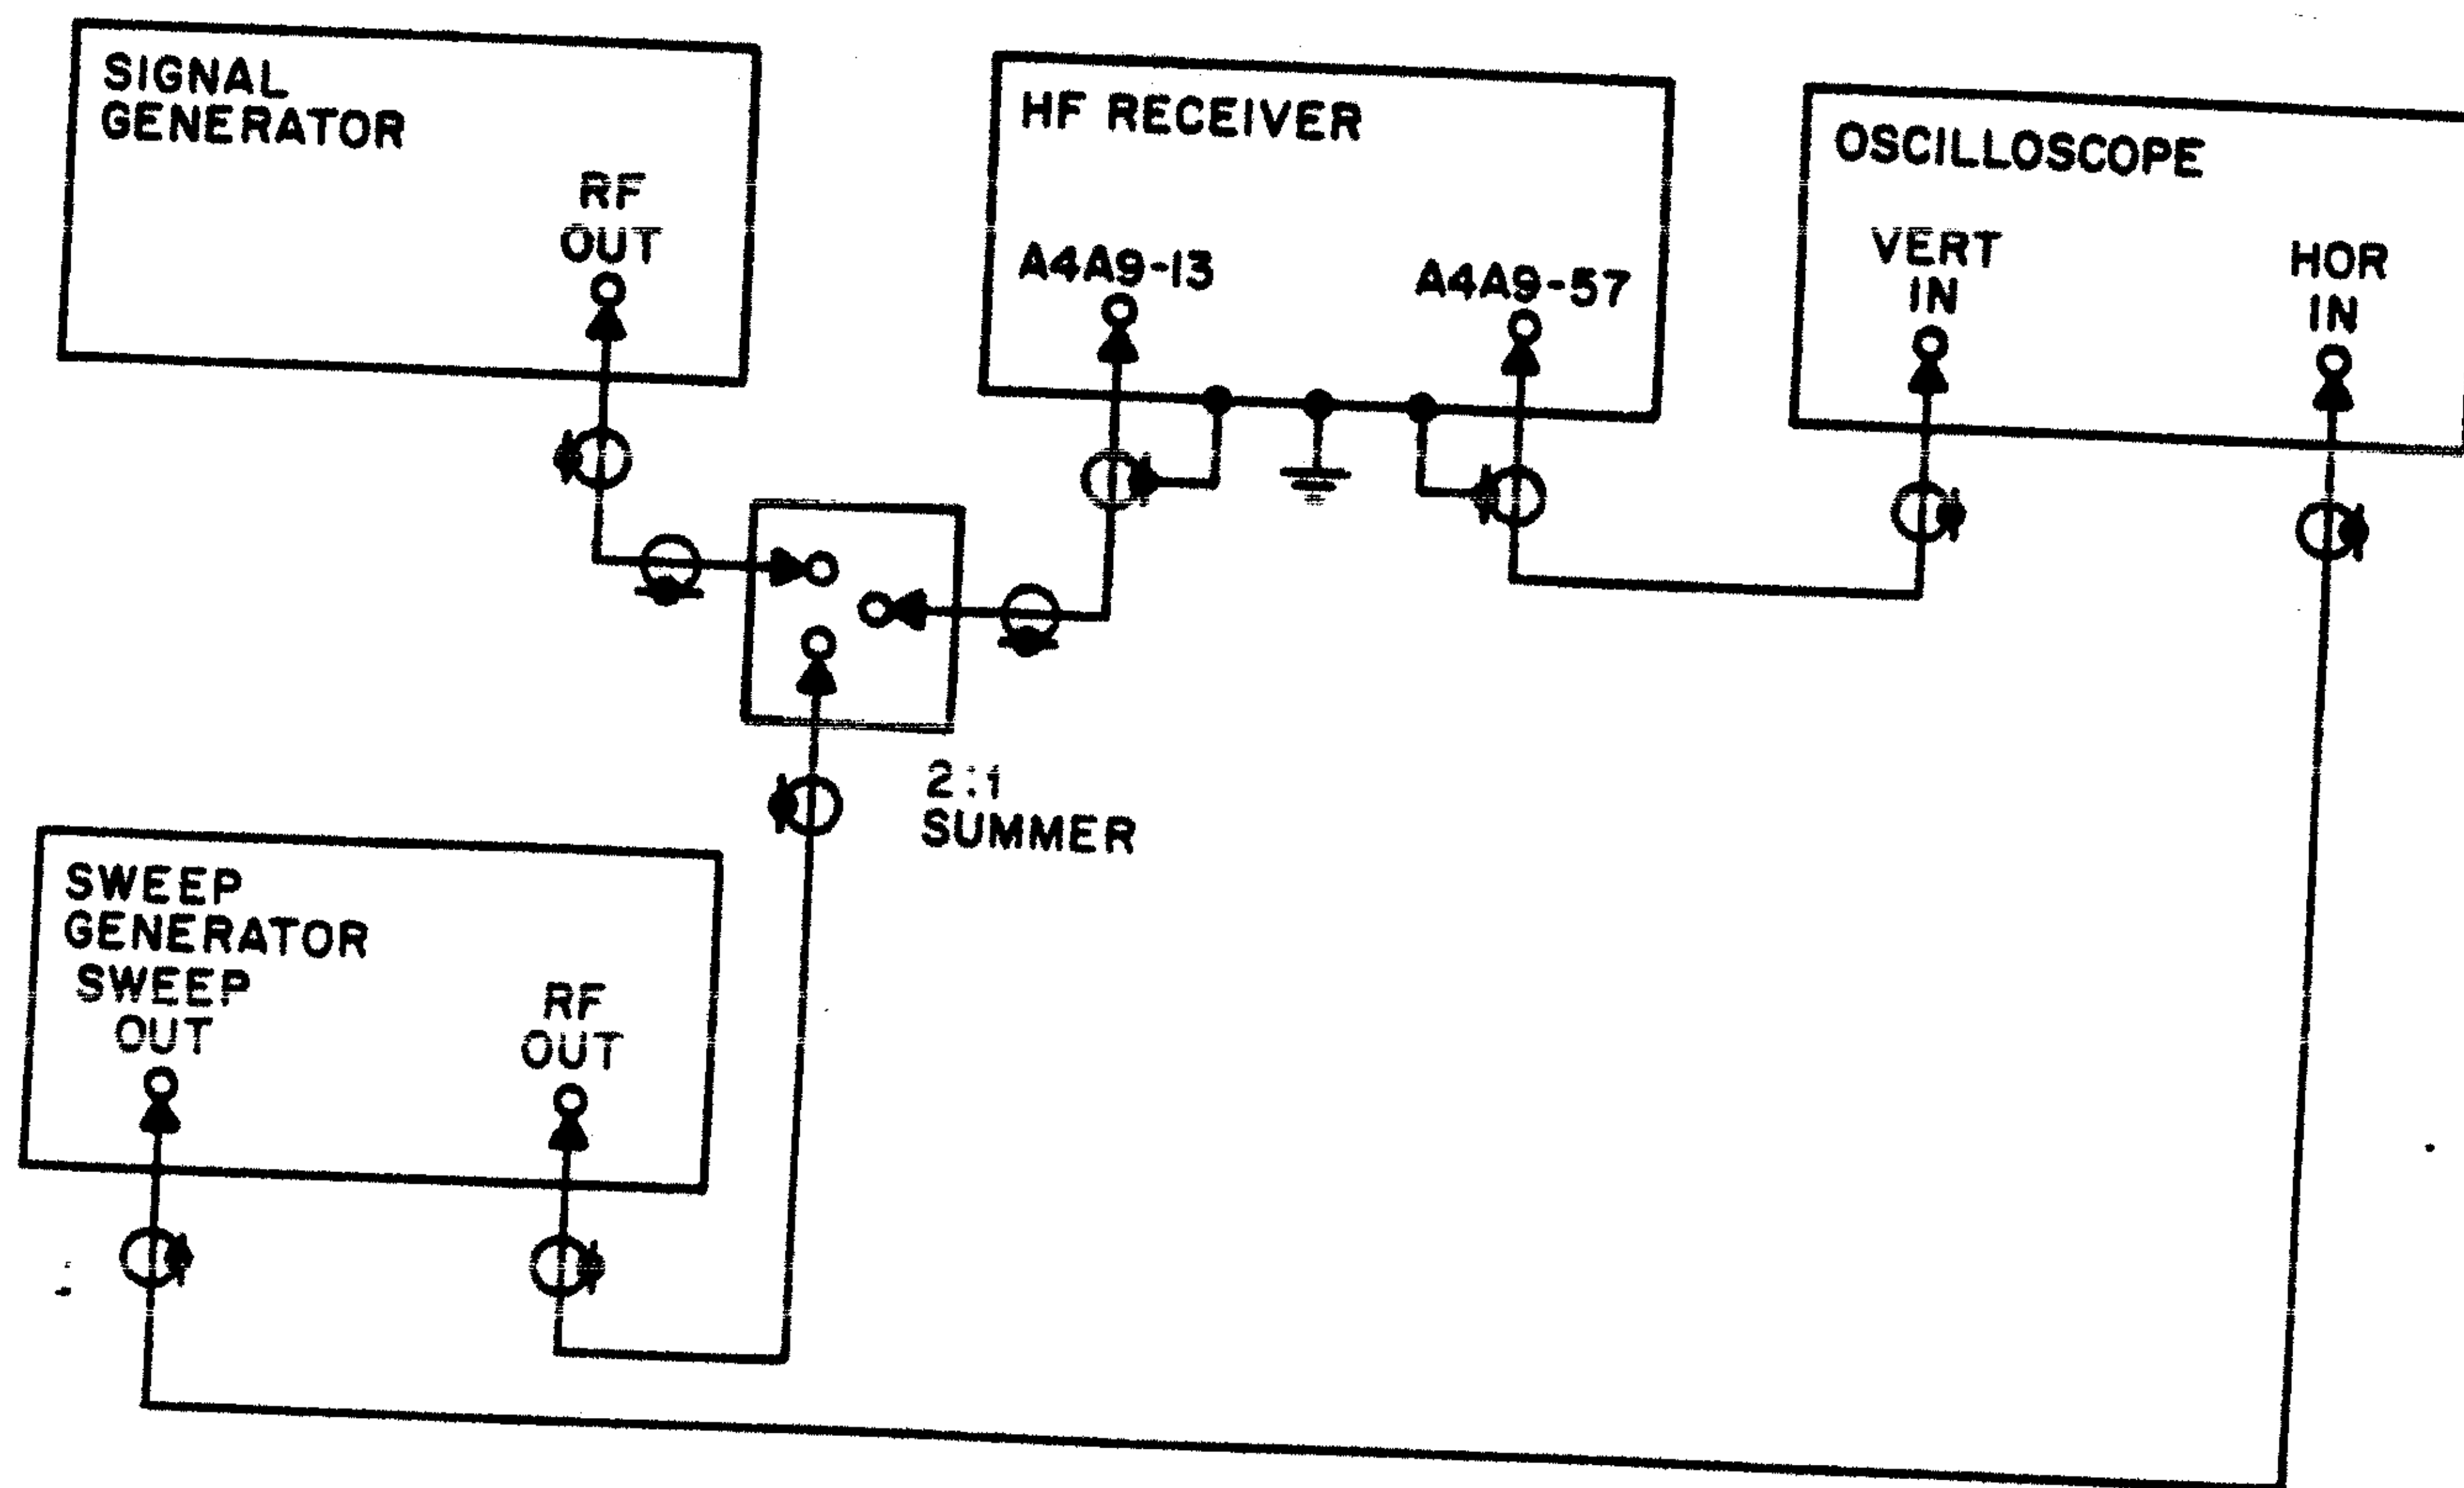

Figure 4-9. FM Discriminator Alignment, Test Setup
4. Connect the test equipment as shown in **Figure 4-9**.